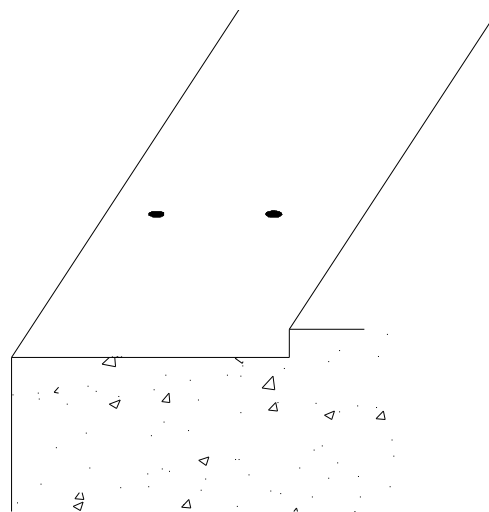

Figure 8
**STEP 10.** Remove the base member from its position, and drill the anchor holes into the concrete at the marked locations (see Figure 8). Drill the anchor holes 1/4" deeper than the length of the anchors. Clean away all dust and debris from the blockout.